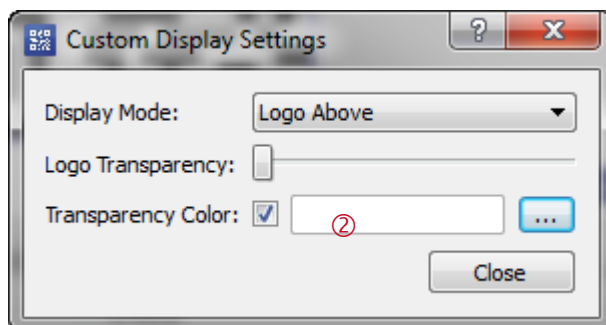

Figure 21: Custom Display Settings
Choosing of a single transparency color. If the selected color occurs in the logo, it is drawn transparently. (See also ① in Figure 21 – white was chosen as transparency color ②).